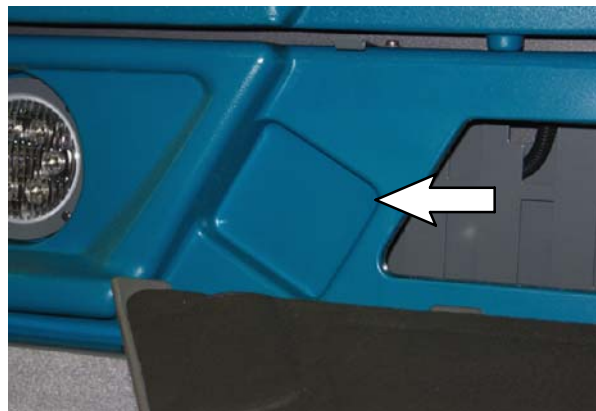
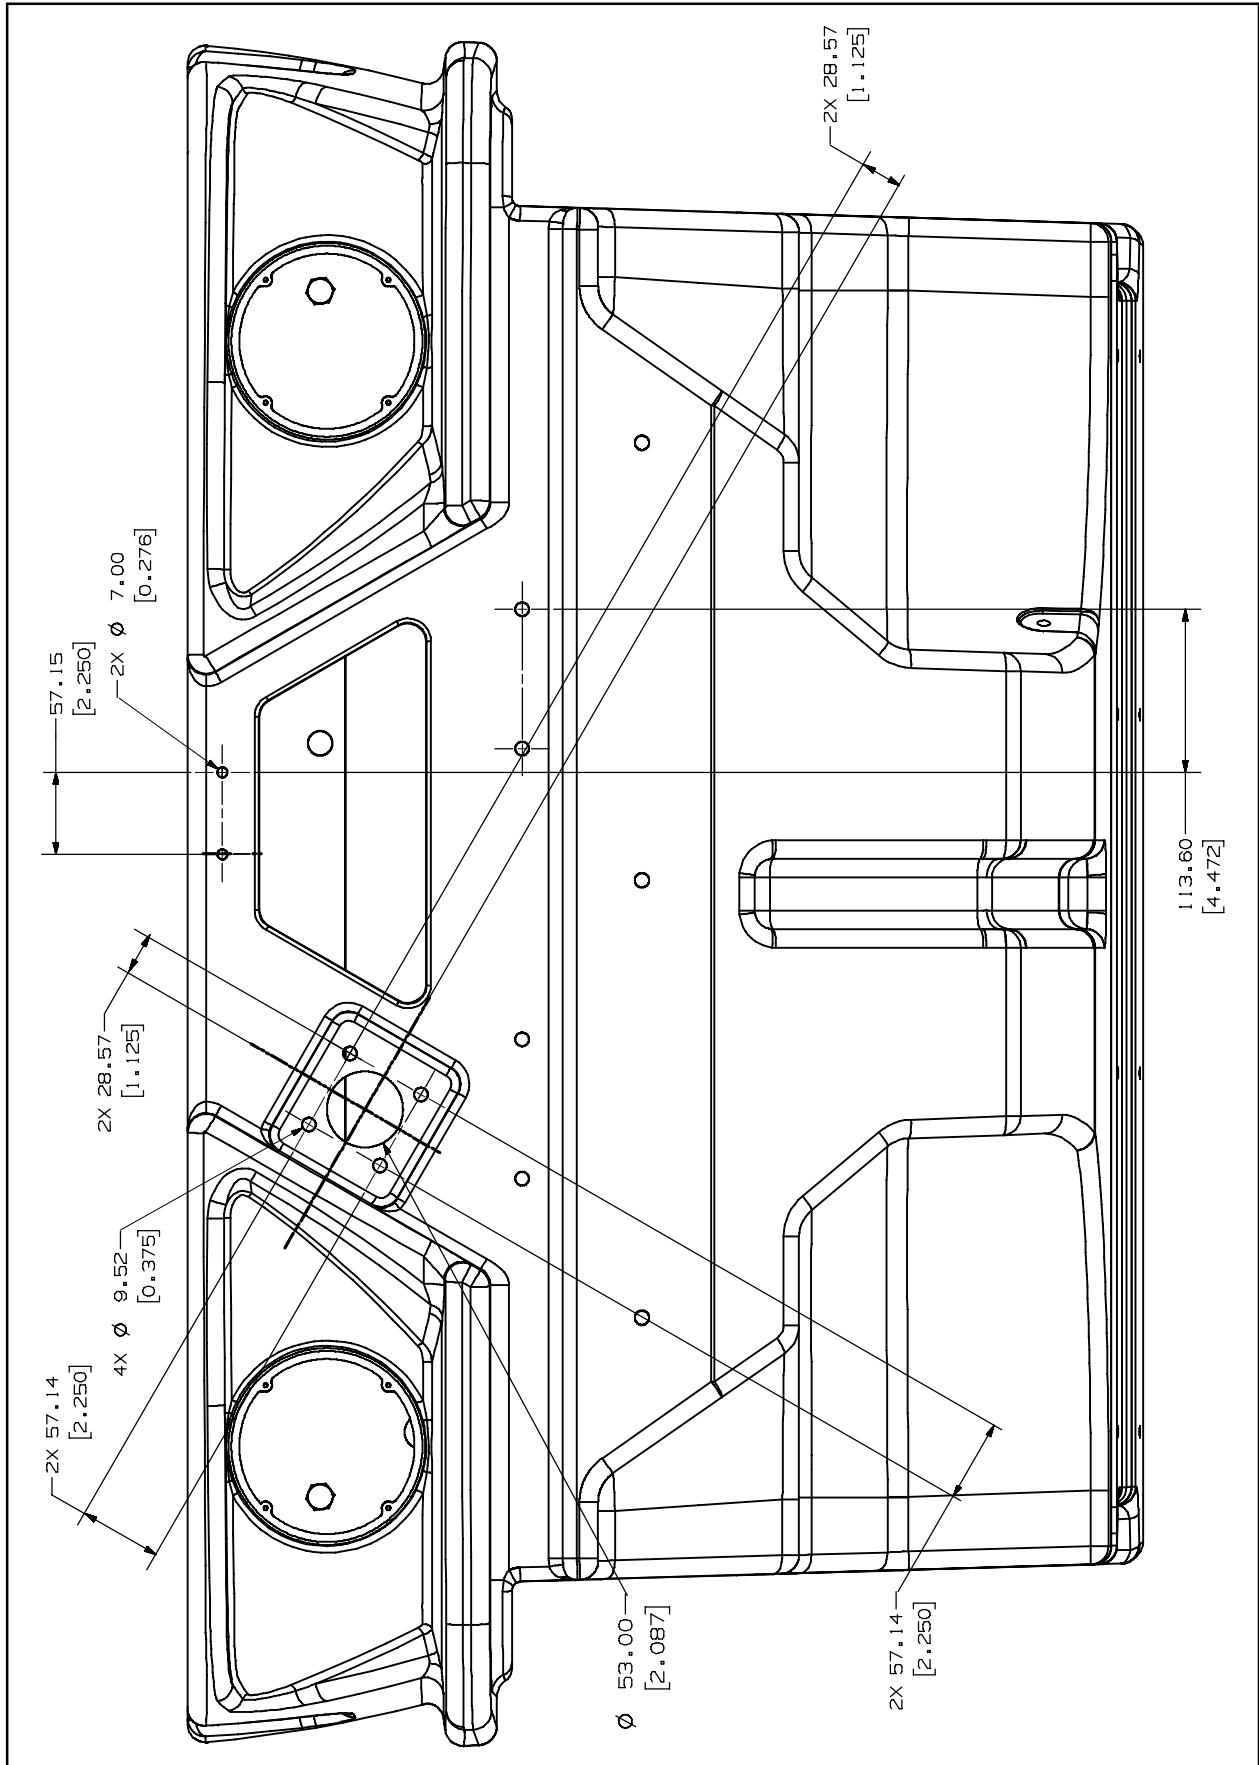

FIG. 2
FIG. 3
2. Place the vacuum wand adapter onto the front of the hopper and mark the locations for the four 0.375" holes and the 2.087" hole onto the hopper. Refer to Fig. 2 and Fig. 3.
3. Place the vacuum wand door into the hopper and mark the locations for the two 0.276" holes onto the hopper. Refer to Fig. 3.
4. Use a hole saw to cut a 2.087" hole into the hopper. Refer to Fig. 3.
5. Drill four 0.375" holes into the hopper. Refer to Fig. 3.
6. Drill two 0.276" holes into the hopper. Refer to Fig. 3.